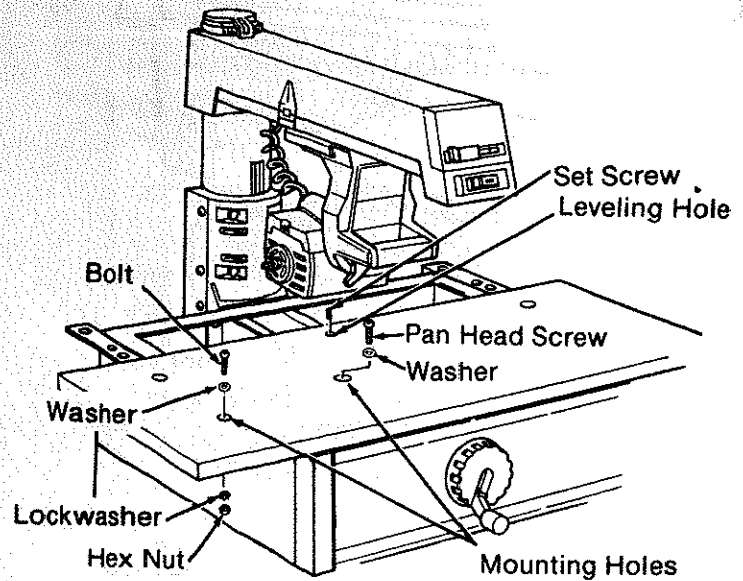

Fig. 45
4. Place the *front table* on the *saw* so that the *mounting holes* in the *table* line up with holes in the *table supports* and center channel of *saw*. (Figure 45)
5. Start the *cup point set screw* through the *leveling hole*. Do not tighten. (Figures 45 & 46)
6. Put a *washer* in each of the *mounting holes*. (Figures 45 & 47)
7. Start a *pan head machine screw* through the center *mounting hole*. Do not tighten. (Figures 45 & 48)
8. Install the *pan head bolts* through the other four *mounting holes*. Put a lockwasher and hex nut on each bolt and tighten using a Phillips screwdriver. (Figures 45 & 49)